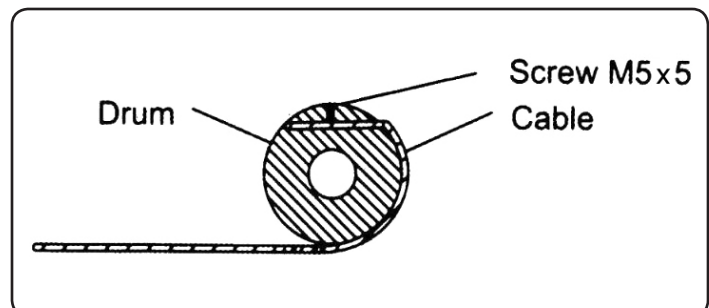

Figure 4.
1. Mount your winch to the vehicle using the M8x30 bolts, lock-washer and flat-washer. **This winch must be mounted with the winch cable in the under-wind orientation (Figure 4).**
3. Remove the existing winch cable assembly and attach the new one. Be sure to insert the new cable in the correct end of the drum hole (Figure 4). Tighten the set screw.